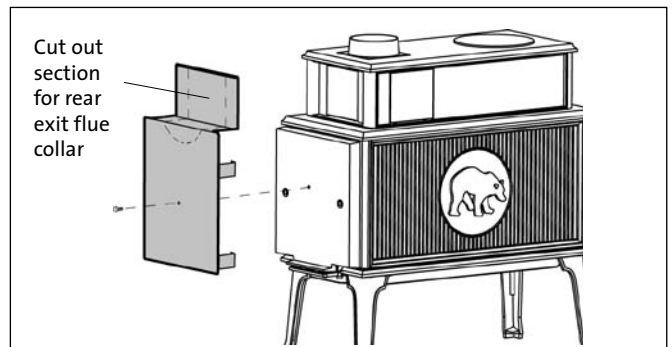

Figure 2.
2. Engage the heat shield stand-offs with the slot at each side of the back plate and attach the shield to the center hole using the M6 x 45 hex bolt supplied. See **fig. 2**.